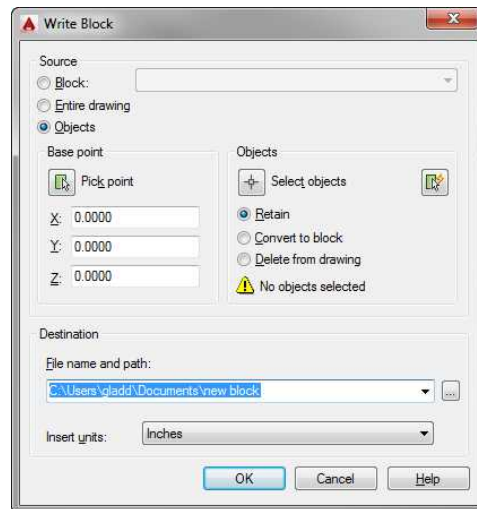

FIGURE 7.58: The Write Block dialog box
3. At the top of the dialog box, in the Source group, click the Objects radio button (see Figure 7.58).